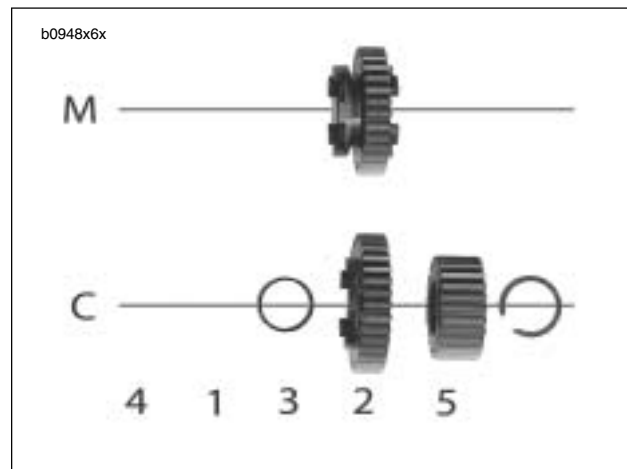

Figure 6-31. Recording The Order of Disassembly
1. See Figure 6-31. As each component is removed, place it on a clean surface in the exact order of removal.